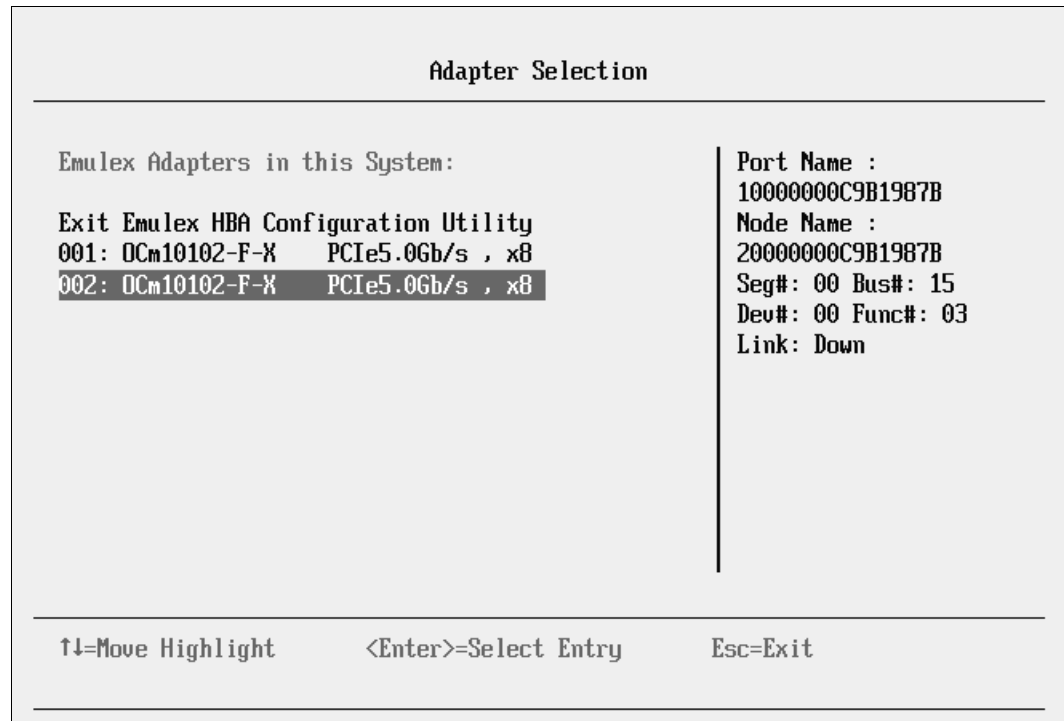

Figure 9-116 Adapter Selection panel
4. In the Adapter Selection panel (Figure 9-116), where you see two Emulex fiber ports, select the Emulex Configuration Setup Utility.